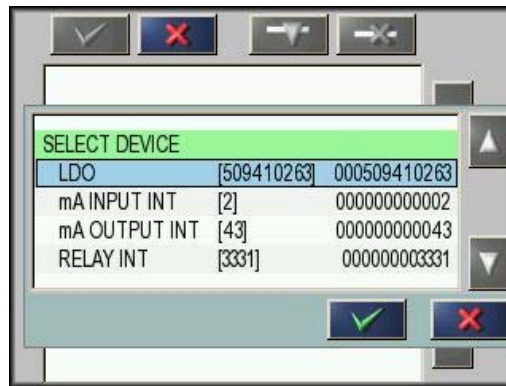

Figure 44 Profibus/Modbus configuration menu—Select device
- Press the **ADD** button and select a device. The Select device box is displayed (Figure 44).